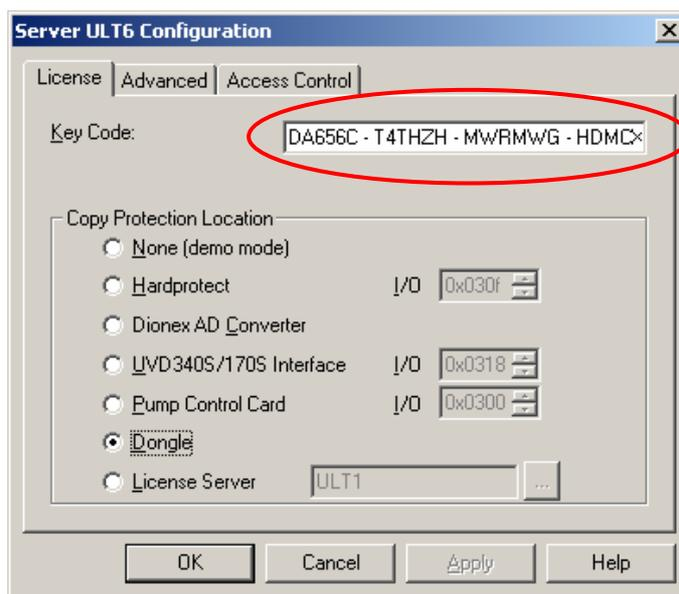

FIGURE 2-15 Server Configuration – Entering the Key Code (using a Dongle)
- e) Click on **Edit** and then on **Properties** to open the configuration box (FIGURE 2-15). Select **Dongle** and enter the 12- or 24-digit key code as stated on the 'Certificate of Compliance' provided with your CHROMELEON package.